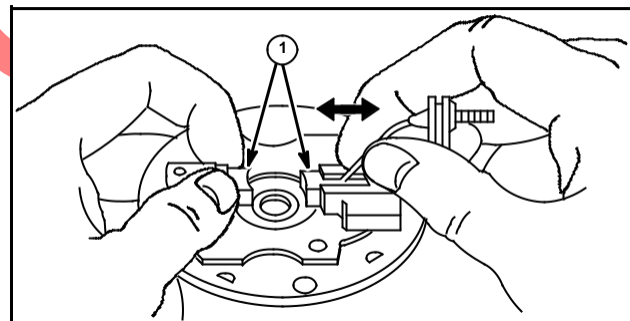

Fig. 52
8. The brushes should be checked for poor seating, weak springs, and contamination, Fig. 52 (Typ.).